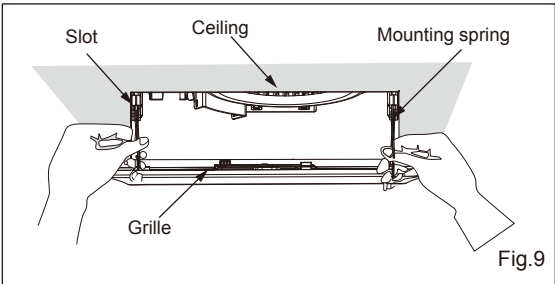

Fig.9
9. Insert mounting springs into slots and mount grille to fan body (Fig.9)